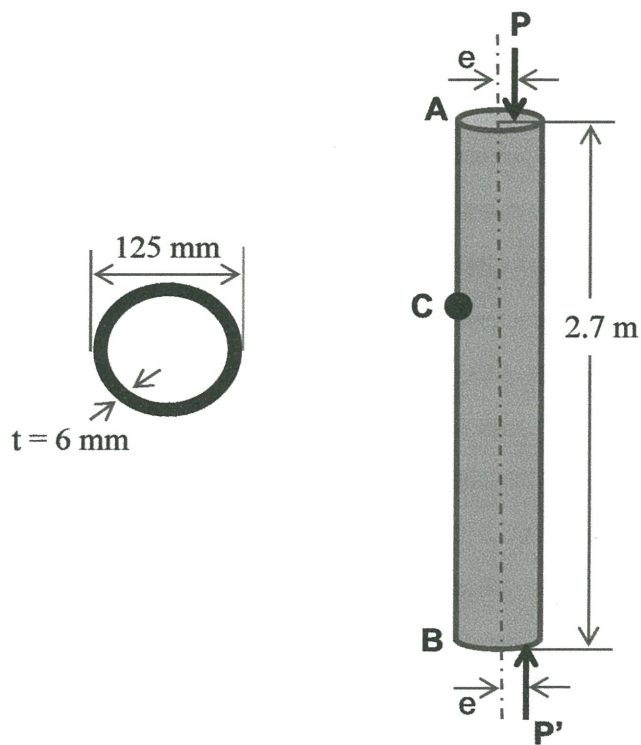

FIGURE Q5
- (b) A brass pipe as shown in **FIGURE Q5** having a cross section and axial load P applied 4 mm from its geometric axis. Using $E = 120$ GPa,